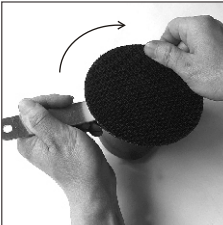

Figure 1
3. Screw tight by hand at clockwise direction the sanding pad into the female thread of the bearing stand (Part#19) by holding the provided wrench on the flats of the stand as shown. (See Figure 1)